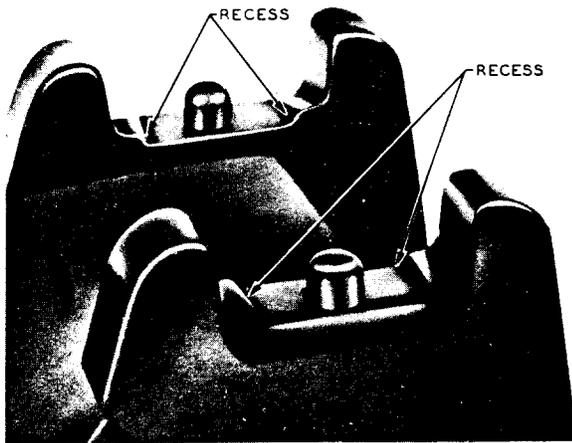

Fig. 9 - Cradle Recess
3.09 The handset cradle of the housing for the 5300 series telephone set will accommodate the F- and G-type hand sets. A recess is provided for the F-type hand set. (See Fig. 9.) The housing is fastened to the webbing of the base by means of the cord anchor screw.